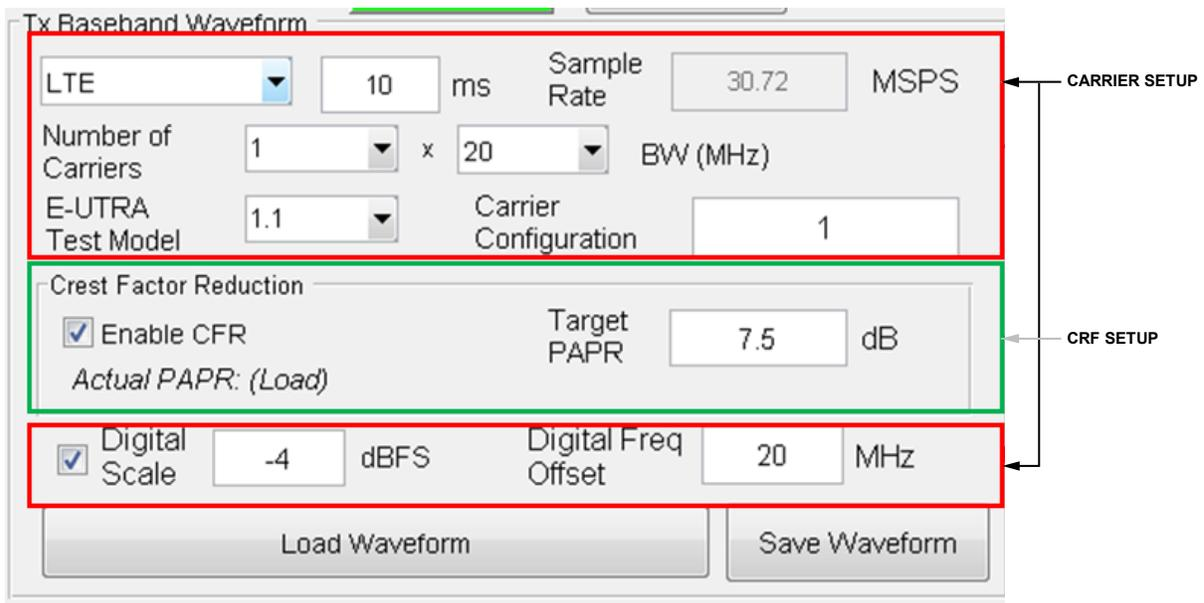

Figure 238. Waveform Characteristics
The baseband waveform characteristics can be manipulated using the **Tx Baseband Waveform** section of the GUI (see Figure 238).
Click within the dropdown menu that currently displays **LTE** in Figure 238 for access to this option. Only LTE frequency division duplex (FDD) downlink (DL) waveforms are included in the DPD GUI library. For other technologies and special configurations, use the **Custom** option and load the waveform using a complex I/Q tabbed text file (no headers). Enter the sample rate and ensure that the waveform time length is as expected. Choose the scaling and the crest factor reduction (CFR) as desired, and load the waveform while leaving all other carrier setup controls as don't care. If the user does not want the DPD GUI to replicate the baseband waveform, set the **Number of Carriers** to  $1 \times$  mode. Choosing any other value creates copies of the waveform around dc (LO).